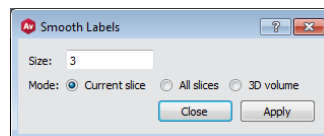

Figure 7.9: Smooth labels dialog
- In the *Segmentation* menu, select *Smooth labels...* (see Figure 7.9).